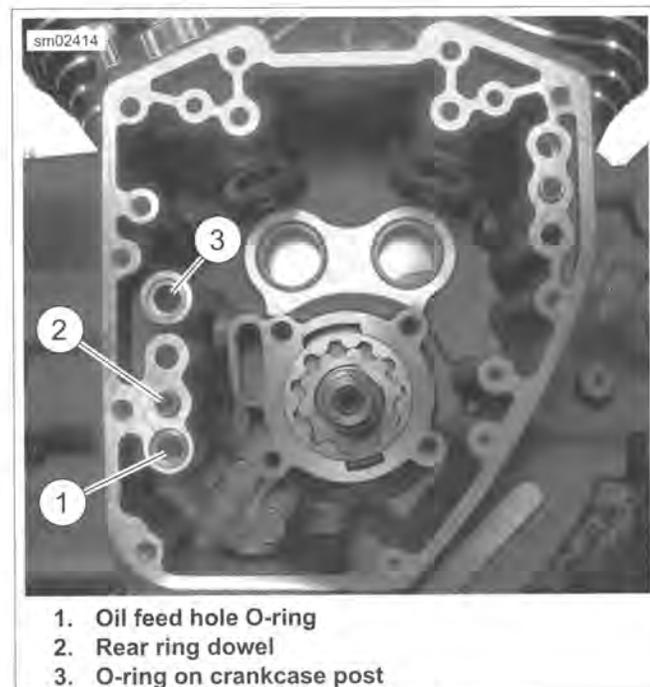

Figure 3-118. Oil Feed Hole
6. See Figure 3-118. Apply a very thin film of SCREAMIN' EAGLE ASSEMBLY LUBE to **new** O-ring (3) for crankcase post. Install **new** O-ring in groove on crankcase post.